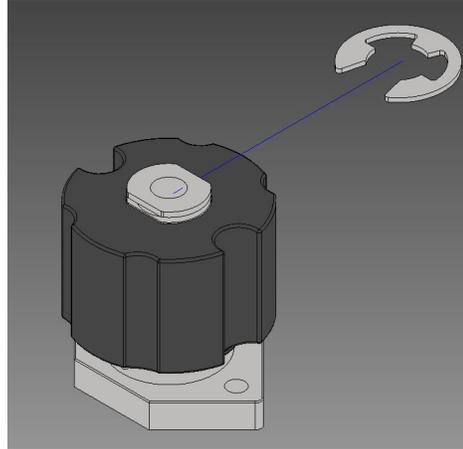

FIGURE F. 13. - E-CLIP INSTALLATION
3. OPTIONAL (continued from step 2) – Install the E-Clip (see Figure F.13.)